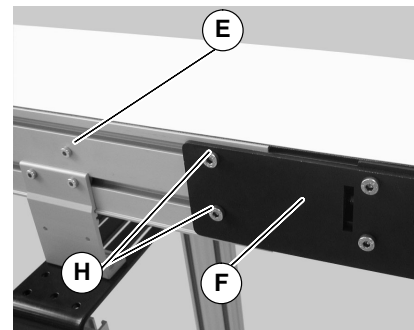
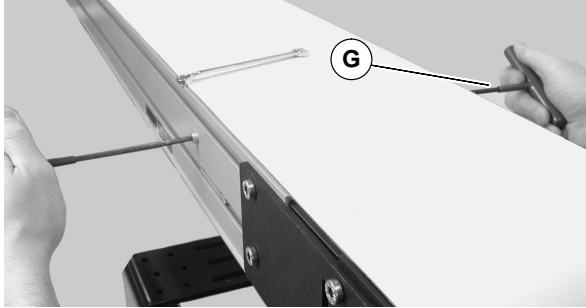

Figure 8
Figure 9
- On tension end of the conveyor, identified by the pinion locking screw (E of Figure 8), loosen the two tail clamp bolts (H), on both sides of conveyor.
- With 5mm hex wrench, hold pinion torque screw (G of Figure 9). Loosen the pinion locking screw (E of Figure 8) and turn the pinion torque screw (G) to extend head plate assembly.
11. After adjusting proper tensioning, tighten the pinion locking screw (E of Figure 8) to 69 in-lbs (7.8 N-m), and tighten tail clamp bolts (H of Figure 8) on both sides of conveyor to 146 in-lb (16.5 N-m).